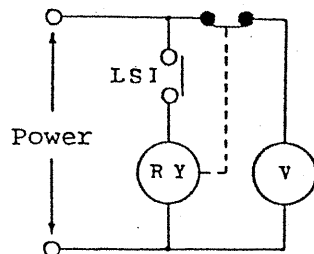

Fig. 5
- o An example of circuits where liquid supply is stopped by closing supply valve when the level reaches the upper limit is shown in Fig. 5.